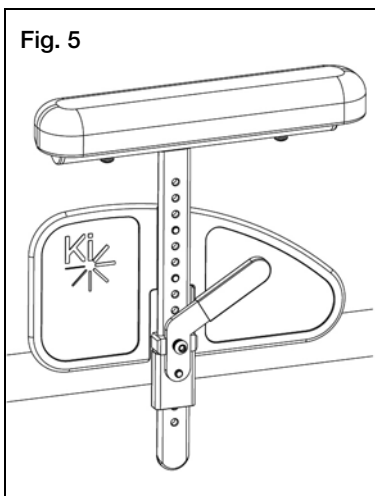

Fig. 5
- a. Slide armrest post into receiver on side frame. Ensuring the pin in lever engages the receiver (Fig. 5).
- f. Replace armrest assemblies into receiver (Fig. 5).